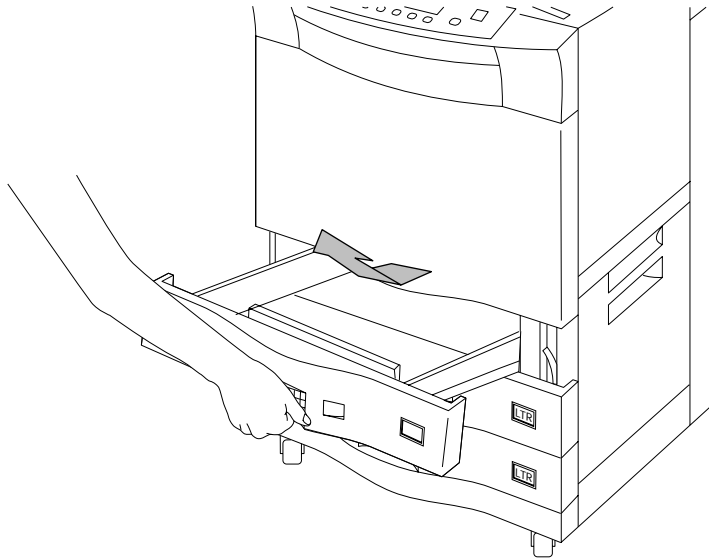

Figure 4-48 Removing Paper Tray
2. Lift up and out to remove the paper tray, as shown in Figure 4-48.